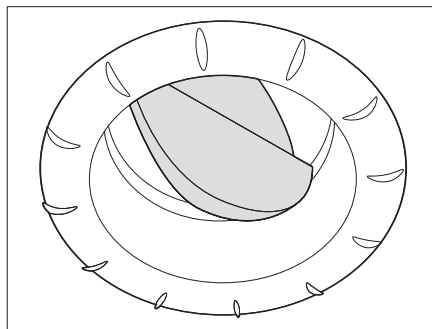

Fig. 102 Air outlet nozzle
**Hot air distribution** Several air outlet nozzles (Fig. 102) are built into the vehicle. Pipes conduct the warm air to the air outlet nozzles. Turn the air outlet nozzles in a suitable position so the air can escape as required.